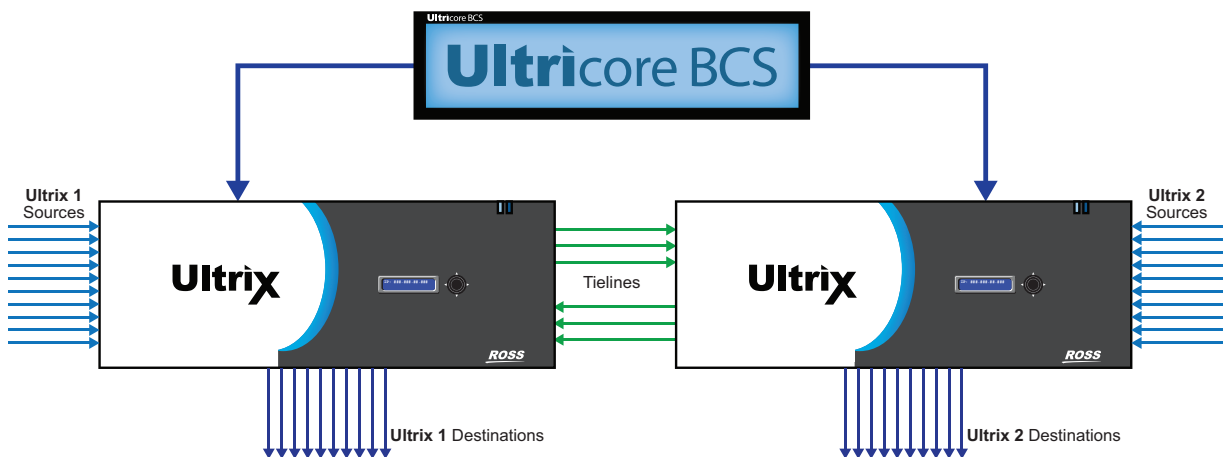
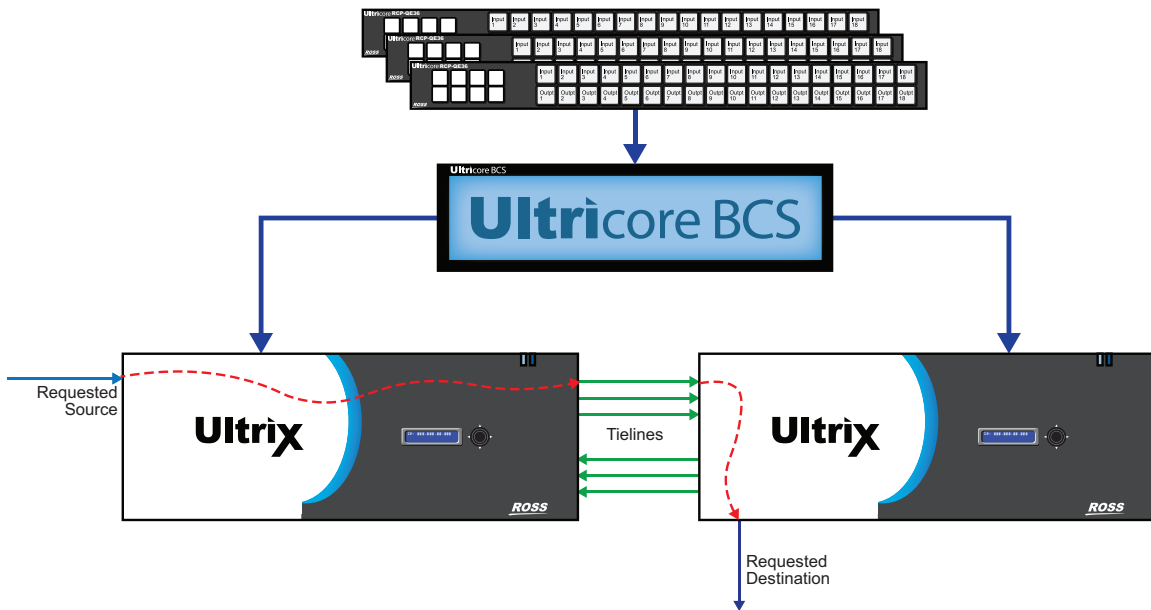

Figure 38 Example of a Distributed Routing System Work Flow with Tielines
Figure 39 Example of Tielines in a Work Flow
A tieline is a method of connecting two routers together so that they may share sources and destinations. How many inputs and outputs that can be shared depends on how many tielines have been provisioned, if the tielines are in use, or if a user has permissions to use them. **Figure 38** represents a two-way tieline connection between routers where one (or more) outputs of Ultrix 1 are connected to the inputs of Ultrix 2, and one (or more) outputs of Ultrix 2 is connected to the inputs of Ultrix 1.
**Figure 39** illustrates a work flow where Ultrix 2 needs a source that is only present on Ultrix 1. The Ultracore BCS routes the requested source to a destination that is configured as a tieline, and on Ultrix 2, it will route the tieline source to the user selected Destination.
★ Tielines do not have to be bi-directional as represented in **Figure 38** and **Figure 39**.
In **Figure 39** the following occurred:
**Figure 39** summarizes the steps required to set up and configure tielines for the Ultracore BCS.
- b. Use the **From Device** menu to specify the router that will provide the start point for the Ultrixcore BCS tieline. In **Figure 39**, this would be Ultrix 1.
- b. Use the **To Device** menu to specify the router that will be the end point for the Ultracore BCS tieline. In **Figure 39**, this would be Ultrix 2.